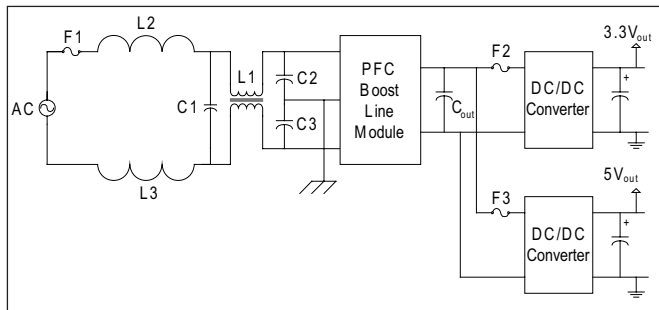

Figure 3: PFC Boost - Typical application circuit, 3.3 & 5V, 60W combined output power.
Product safety standards written by Underwriters Laboratories (UL) and the International Electrotechnical Commission (IEC) require fuses for primary AC power protection and secondary protection against any catastrophic failure within the input filter capacitors, PFC boost module, output electrolytic capacitors ( $C_{OUT}$ ) or the DC-DC converters. The PFC boost module usually does not contain overcurrent protection; if a short-circuit is applied across its output terminals, there is no internal circuit opening device to safely interrupt the power. Without fuse protection in the AC input line (see fuse F1 in Figure 3), the boost converter is not protected.
Fusing the DC-DC converter input lines is essential for protection against a catastrophic DC-DC converter failure (see fuses F2 and F3 in Figure 3).
Common Cooper Bussmann® fuses applied to the overcurrent protection points in the circuit of Figure 3 are: